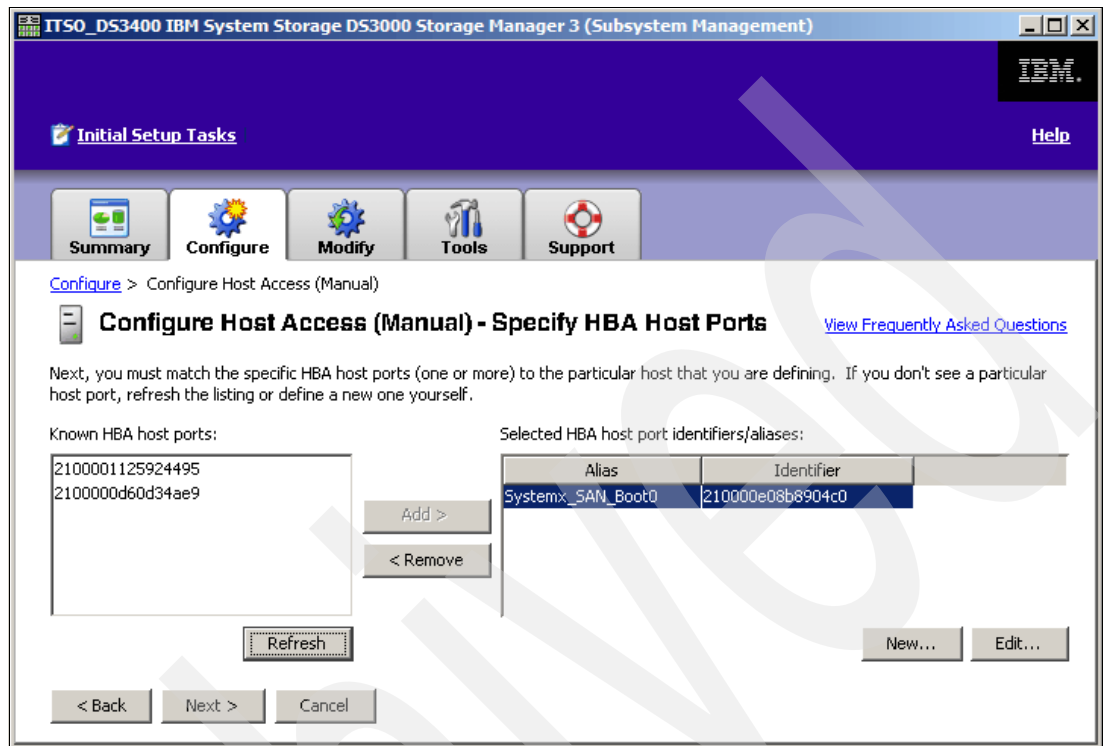

Figure 27-14 Specify HBA Host Port
3. Specify the HBA host port. Remember, we have to specify the first HBA adapter only. Its WWN is 21:00:00:E0:8B:89:04:C0. Select this WWN and click **Add**, as shown in Figure 27-14.